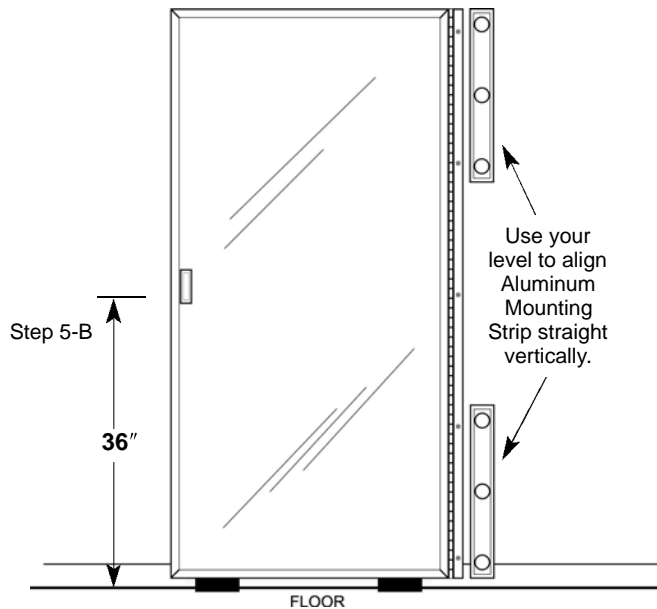

Figure 3
- C. Lift the Wardrobe Door (#1) so that the mirror front is *facing* you and the Piano Hinge (#11) is on your right. Set the Wardrobe Door (#1) on the Wood Blocks with the Aluminum Mounting Strip (#8) touching the wall and the Wardrobe Door (#1) supported on the Wood Blocks (See Figure 3). The Wardrobe Door (#1) and Aluminum Mounting Strip (#8) should be flush to the wall.
- D. Use the Level to align the Wardrobe Door (#1) and Aluminum Mounting Strip (#8) plumb, straight up and down (See Figure 3). The “Shims” may come in handy for this purpose.
- B. Thoroughly clean the mirror on the side of the door that opens. Peel the paper backing off of the back of the Mirror Handle (#2) and press it firmly onto the mirror, 36" up from the bottom of the Wardrobe Door (#1) so that it just touches the Aluminum Frame Mold (#3) (See Figure 3).